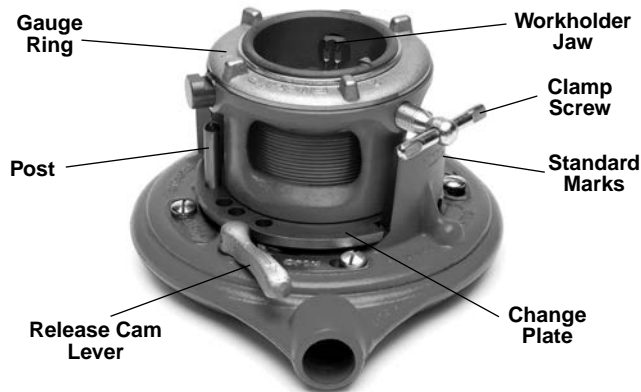
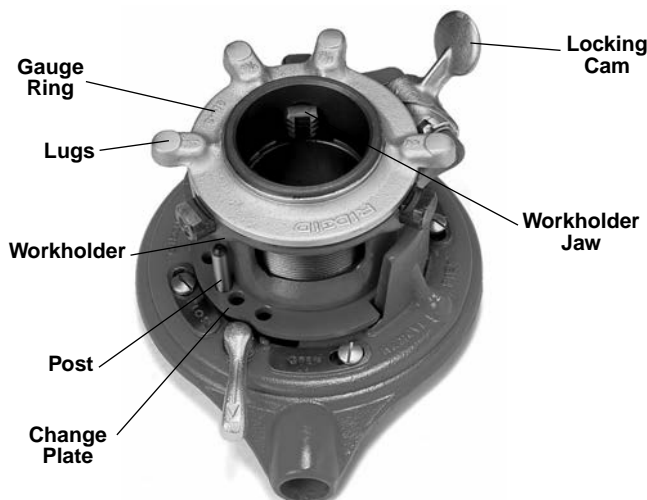

Figure 1 – 65R-C Threader
Figure 2 – 65R-TC Threader
1. Place threader with workholder up (Figures 1 and 2) and unscrew workholder by turning counter-clockwise until change plate is clear of posts.
65R-C: Turn gauge ring until desired pipe size corresponds with mark on top of workholder (Figure 1).
65R-TC: Turn gauge ring until desired pipe size is aligned with locking cam (Figure 2).
7. Secure workholder on the pipe by tightening the clamp screw (*Figure 1*) or the locking cam (*Figure 2*).
1. Place threader in position as shown in *Figure 1* and unscrew workholder upwards until change plate is clear of post. Turn release cam lever to OPEN position.